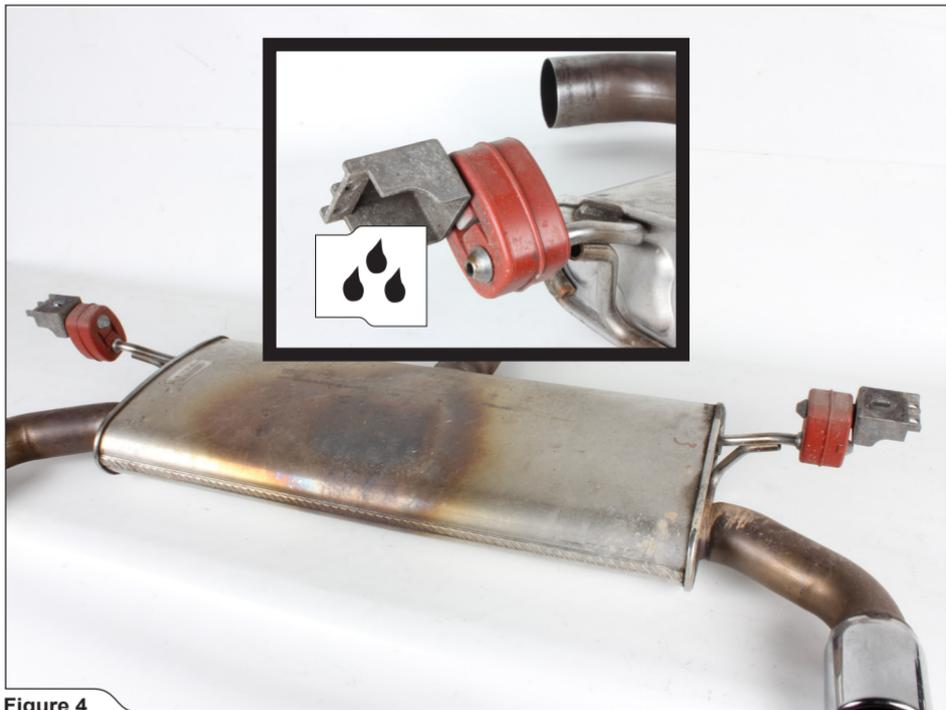

Figure 4
4. Carefully remove the rubber brackets off the muffler brackets (**Figure 4**).